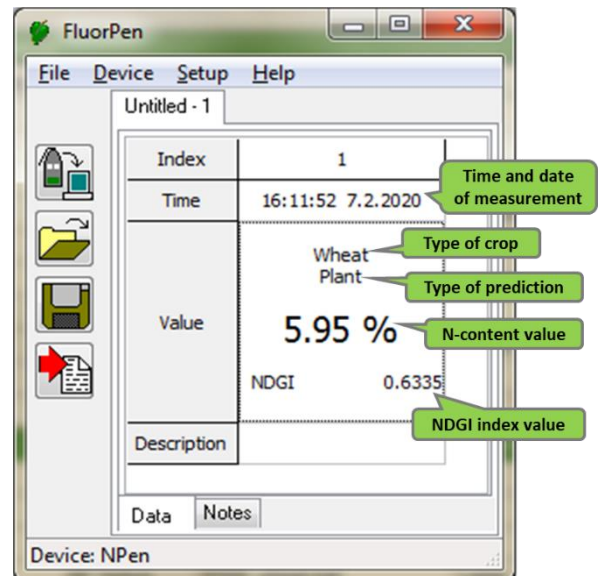

Fig. 17 Example of downloaded data.
3. The Data table appears (Fig. 17).